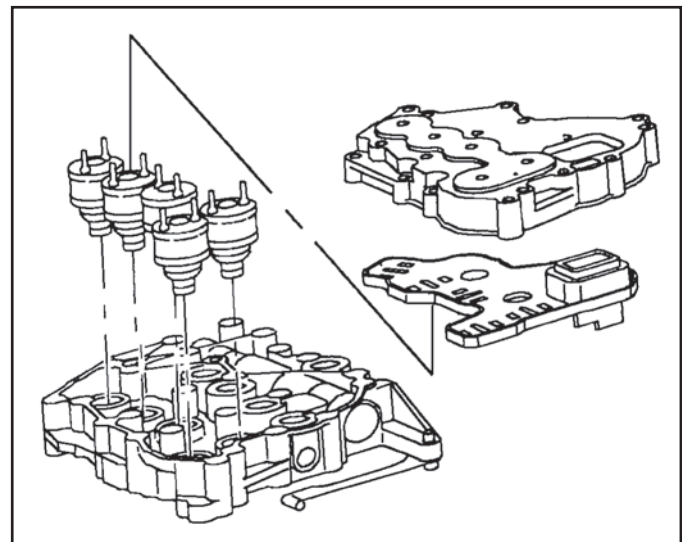

Figure 173
2. Remove the actuator cover from the valve body (See Figure 173).
3. Lift the actuator connector plate off the actuator pins (See Figure 173).
4. Remove each actuator with a slight twisting motion while pulling on the actuator (See Figure 173).